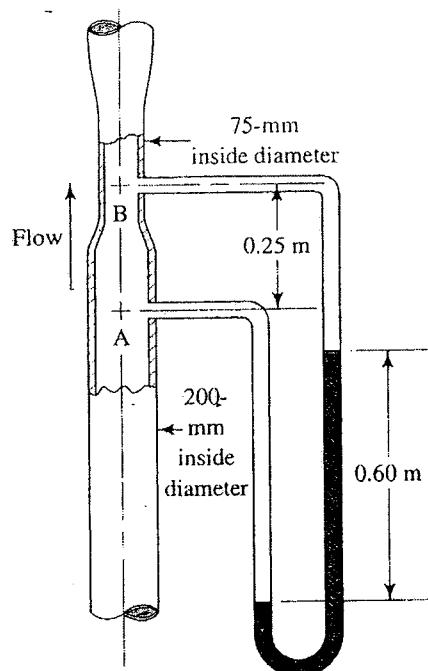

Figure 2 / Rajah 2
- [b] Venturi meter is a flow measuring device that can be used to measure the velocity of flow in a fluid flow system. The venturi meter shown in Figure 2 carries oil ($\text{sg}=0.90$). The specific gravity of the gage fluid in the manometer is 1.40. Calculate the volume flow rate of oil.